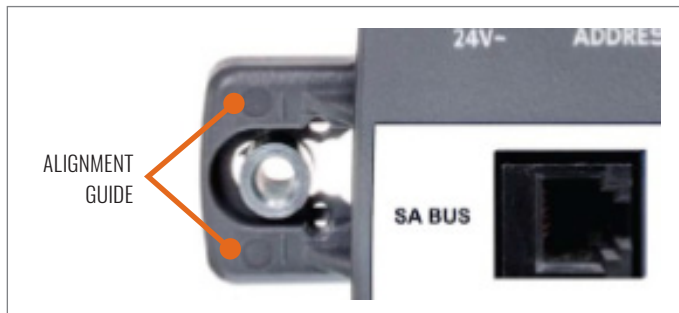

Figure 1: Captive Spacer Alignment Marks
5. Use the alignment marks to center the captive spacer to ensure sufficient movement in either direction. (Figure 1)